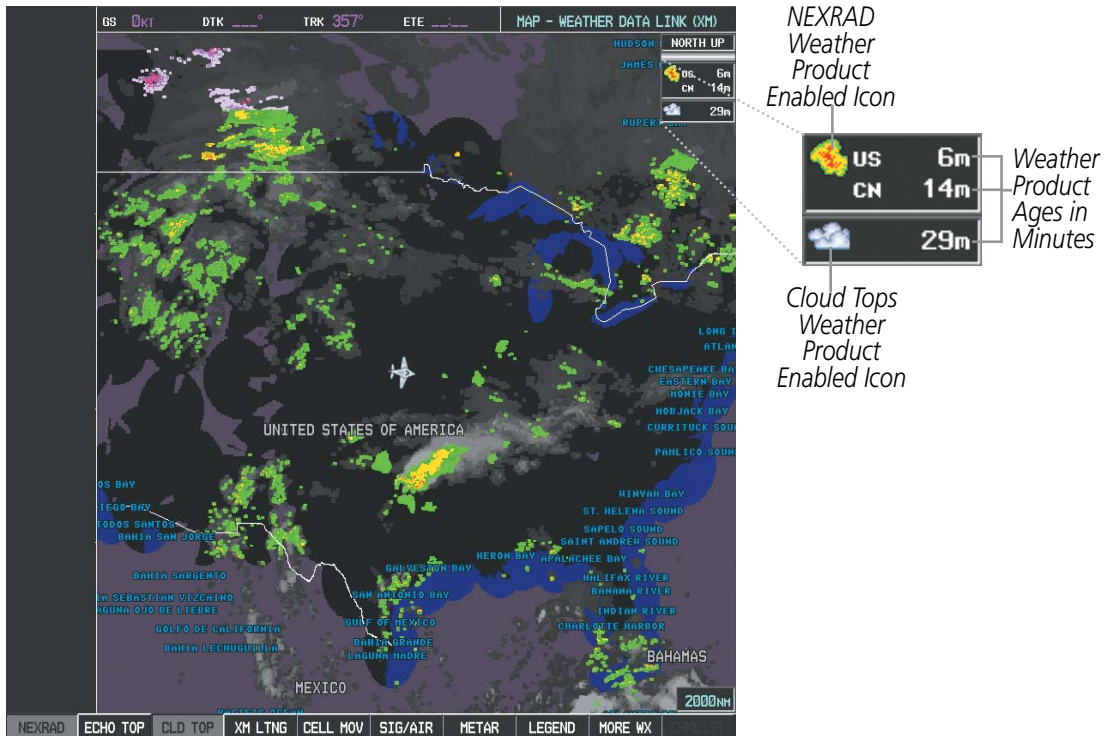

Figure 6-2 Weather Data Link Page
When a weather product is active on the Weather Data Link (XM) Page or the Navigation Map Page, the corresponding product symbol and age of the data are displayed inside a status box (Figure 6-2). The age of the product is based on the time difference between when the data was assembled on the ground and the current GPS time. Weather products are refreshed at specific intervals (defined in the Refresh Rate column in Table 6-1).